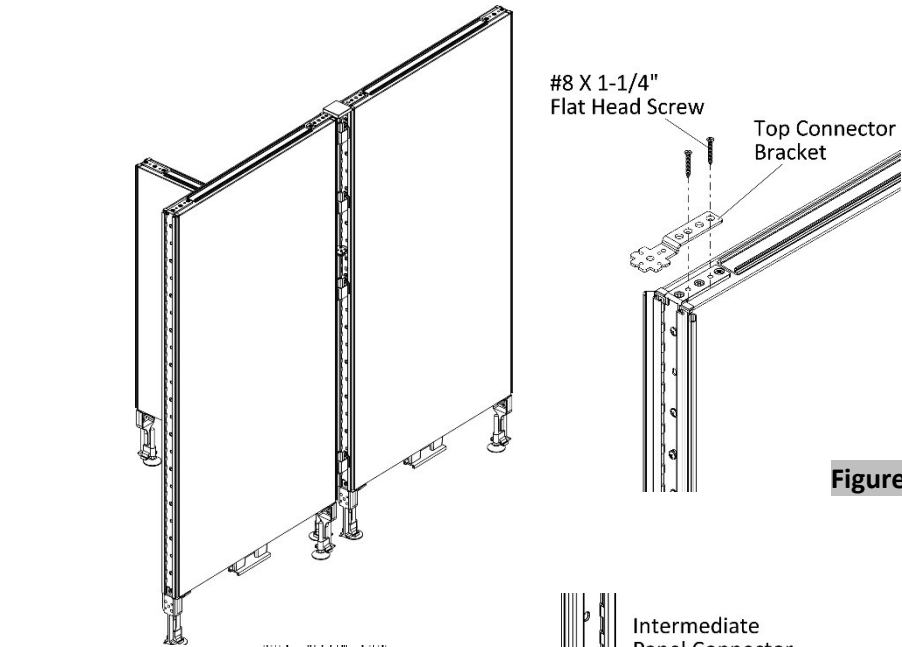

Figure 1
1. Position top connector bracket on top edge corner of shorter panel, (Figure 1).